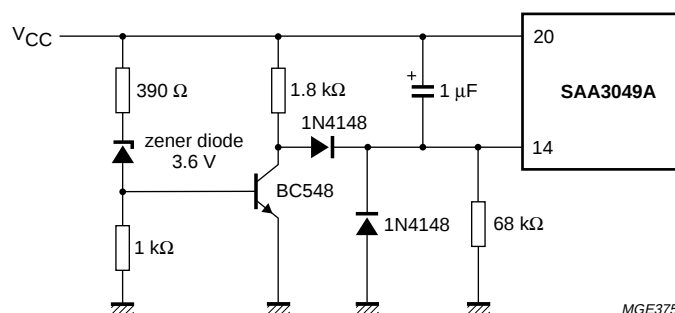
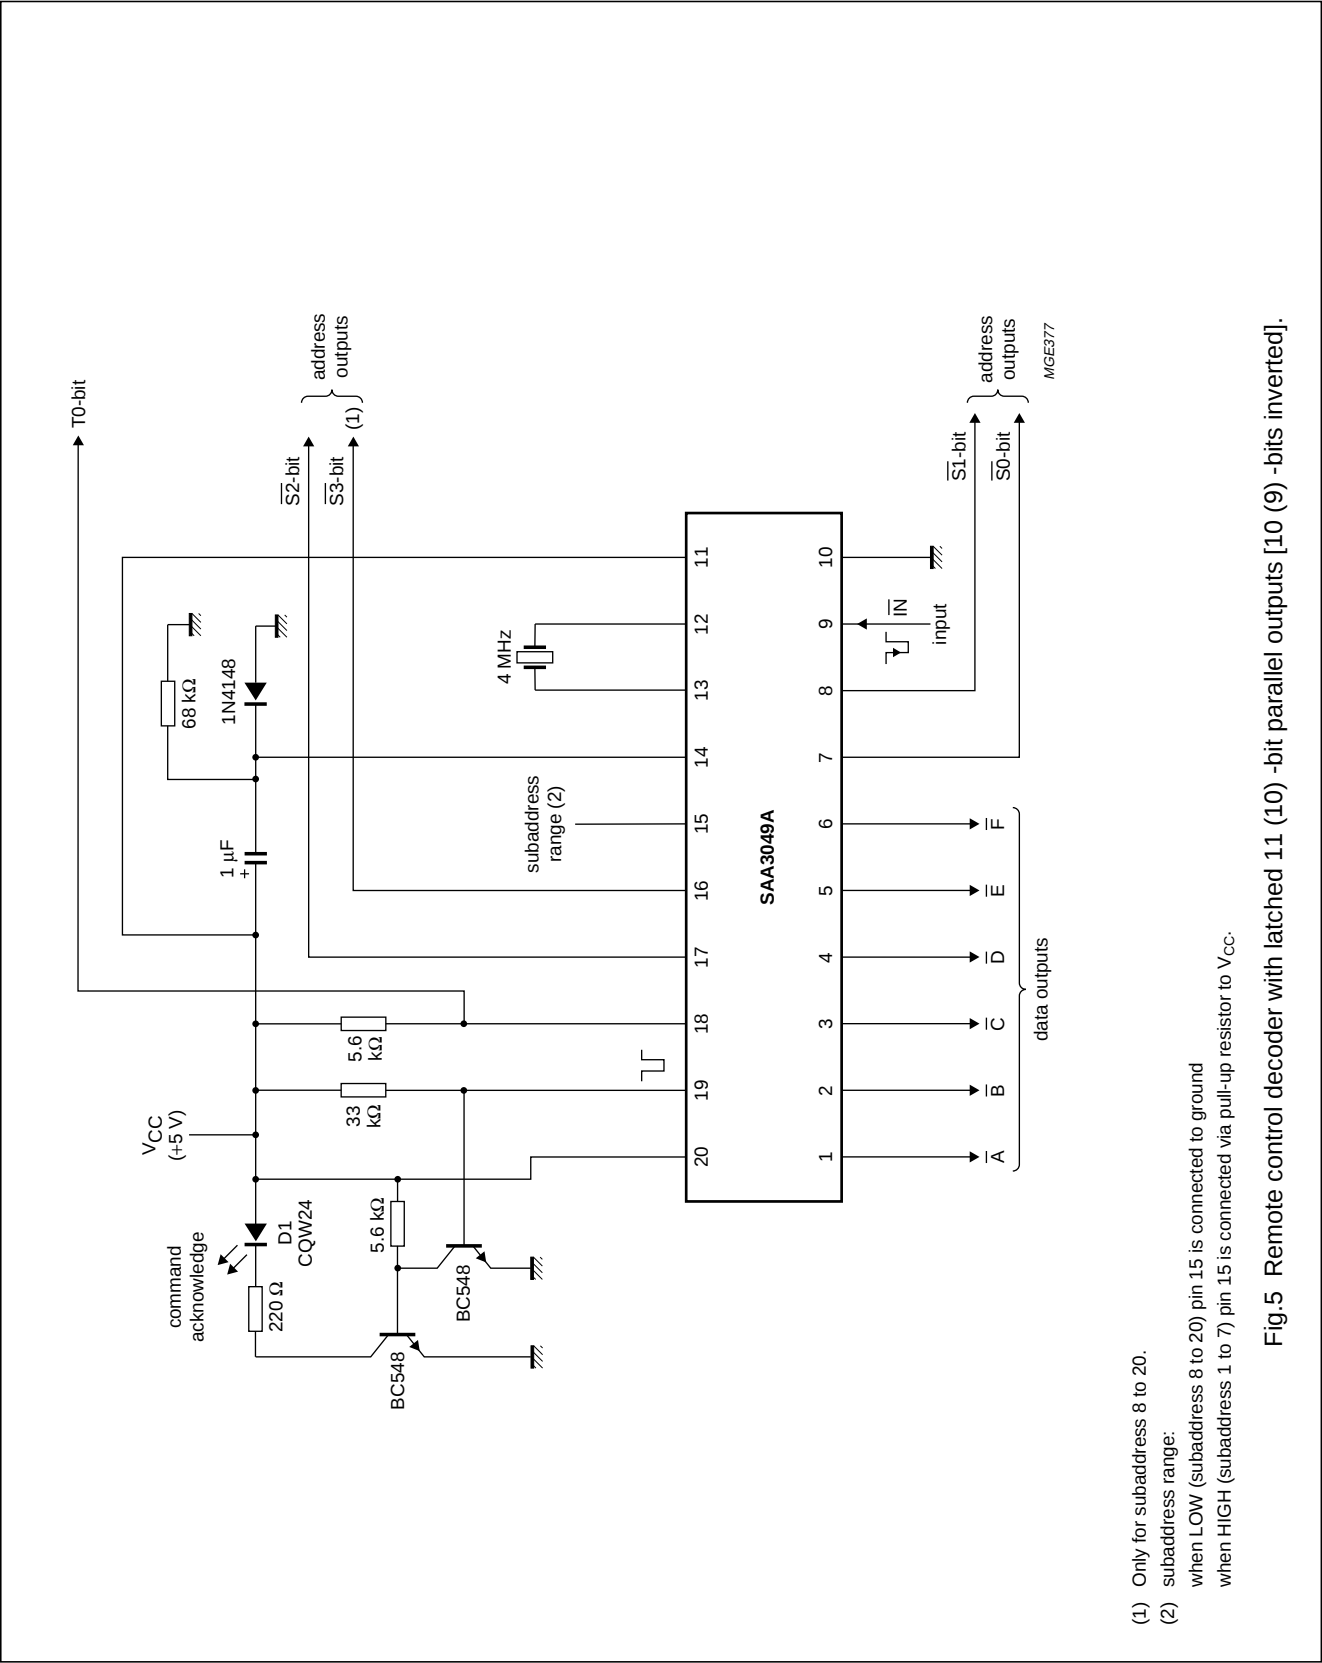

Fig.3 Proposed improved reset circuit.
Fig.5 Remote control decoder with latched 11 (10) -bit parallel outputs [10 (9) -bits inverted].
a) In Figs 5, 6 and 7 this HIGH/LOW switching is dependent on whether the transistor on pin 19 is fed via a series resistor or not. In both applications pin 19, which toggles several times (see Fig.4) while a valid command is acknowledged, can be used to activate (flash) an LED indicator.
The circuit is shown in Figs 5, 6 and 7. The alternative reset circuit shown in Fig.3 protects against short term power supply transients by generating a reset.
In Fig.5, the circuit shown is for use with transmitters SAA3004, SAA3007 or SAA3008; pin 11 is HIGH for RECS80 code.